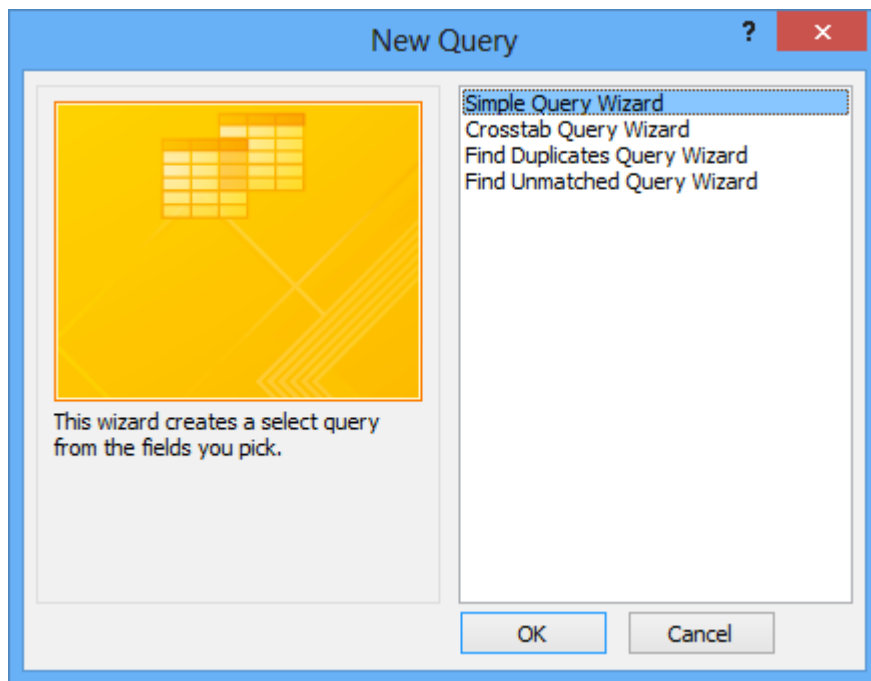

Figure 10: New Query Window of the Simple Query Wizard
5. Open the New Query Window: Choose **Create → Query Wizard** in the Queries group to open the New Query window (Figure 10). Click the **OK** button with the Simple Query Wizard highlighted.